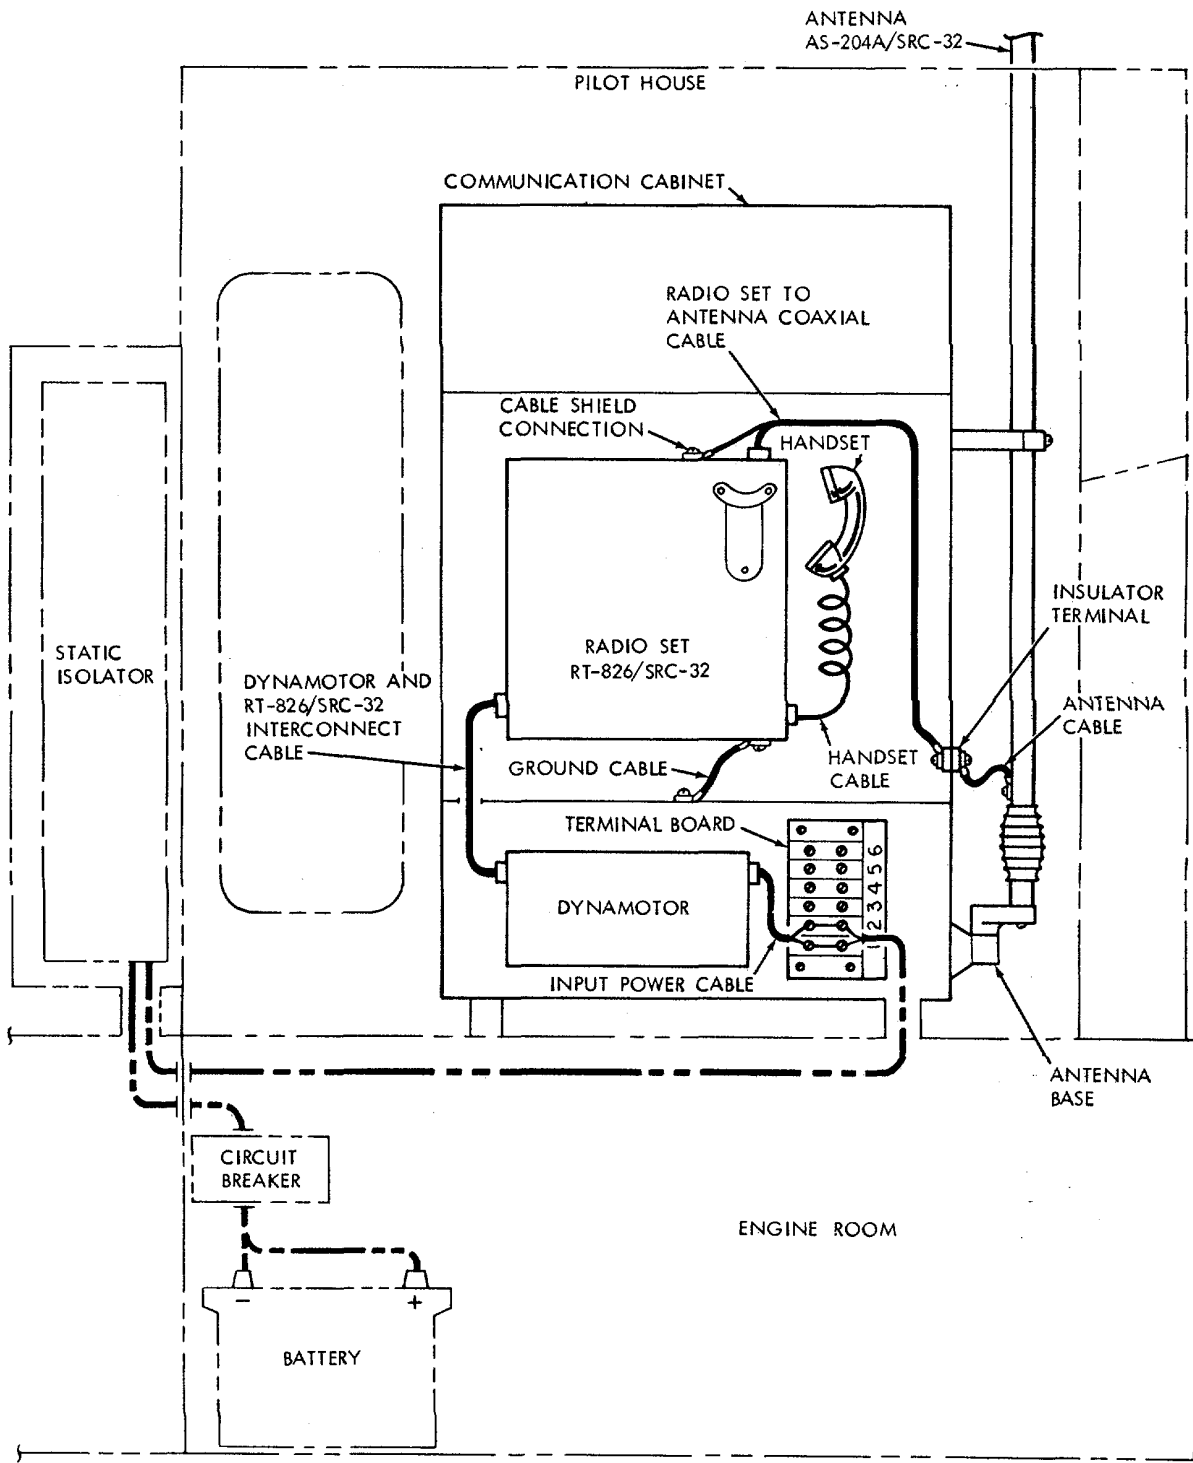

Figure 6-1. Radio set NA/SRC-32 (hulls 8540-8560 and 8580-8618).
- a. *Removal.* Refer to Figure 6-1 and proceed as follows:
- (5) Disconnect ground cable and cable shield from ground studs in receiver/transmitter. Remove mounting bolt, washers and nut attaching ground cable to case. Remove and retain cable and attaching hardware.
- (6) Remove cable between dynamotor and receiver/transmitter. Disconnect cable at terminal block (TB-2) in dynamotor and terminal block (TB-1) in receiver/transmitter. Retain cable.
- (7) Disconnect the cable between receiver/transmitter and insulator terminal. Remove and retain cable.
- (8) Disconnect the antenna cable between antenna and insulator terminal. Remove and retain cable.
- (9) Remove the antenna assembly from antenna base by unlatching the holding latch. Retain the antenna assembly.
- (10) Remove the receiver/transmitter by removing the remaining mounting bolts, washers, and nuts. Retain the mounting hardware.
- (11) Remove the dynamotor from base of the communications cabinet by unfastening straps securing dynamotor.
- (12) Install covers removed from the receiver/transmitter and dynamotor in step (3).
- (13) Close and latch communications cabinet front panel. Connect the battery ground cable.
- c. Installation Figure 6-1.* Install components in reverse order of removal. Be certain that proper polarity is observed in connecting input cable.